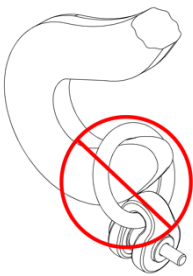

Fig 1
- NEVER use an oversize hook or other oversize lifting device that will pry or tend to deform the ring (Fig.1).